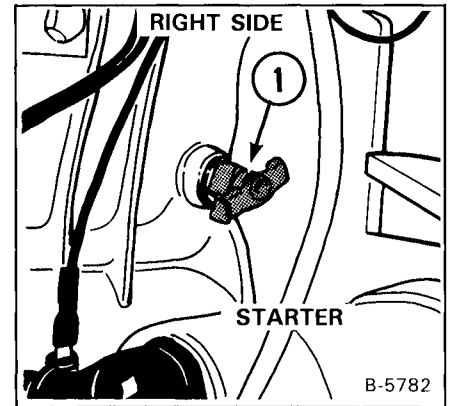

Fig. 73 Radiator Cap
1. Stop the engine. Open the rear door and remove the belt shield (Fig. 73).